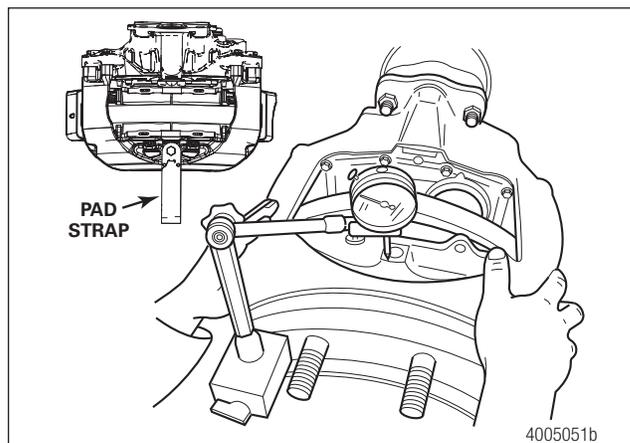

Fig. 6.15 Dial Indicator Position on Caliper
STEP 1 - Loosen the pad strap and reposition it 180 degrees from the installed position. Retighten the pad strap bolt to 20 lb-ft (27 Nm) so that the strap does not move. Figure 6.15. **ⓘ**
STEP 3 - Attach a dial indicator onto the vehicle hub and set it against the caliper. Figure 6.15.